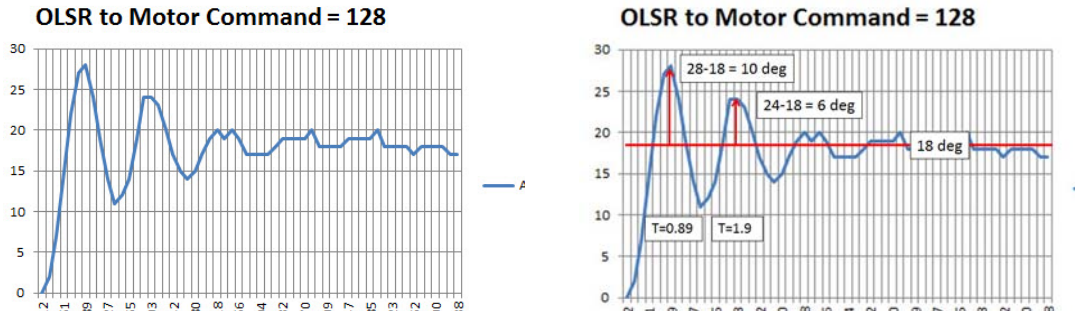

Fig 1-1A: Time plot of pendulum angle in degrees (left). A close up of the time plot (right)
Step 3: From Bricx NXT Explorer, copy the capture angle data (`pendulum01sr.csv`) to your computer. Use Excel to line plot a graph of angle [deg] (y-axis) over time [sec] (x-axis). **Fig 1-1A** (left) shows an example. One sees that the DCP's step response to a motor command; the angle (in degrees) oscillated to a motor command (128), and after about 7-seconds, reach a steady-state value of 18-degrees.
Fig 1-1A (right) is a close up of the time response and identifies the following: $a = 28 - 18 = 10$, $b = 24 - 18 = 6$, and $T = 1.9 - 0.89 = 1.01$ sec. Substituting these values into (1A), one has:
At steady-state, the pendulum is motionless hence $\ddot{\theta} = \dot{\theta} = 0$. From Fig 1-1A, the steady-state angle is $\theta_{ss} = 18$ degrees. Hence, with (2B), (6) becomes
Fig 1-1C: XCOS modeling of a 128 step input command to the Lego-based motorized damped compound pendulum (left). Using the damping ratio, natural frequency, and gain K , a step response simulation can be run (right). This simulated plot of angle over time matches the experimental data shown in **Fig 1-1A**